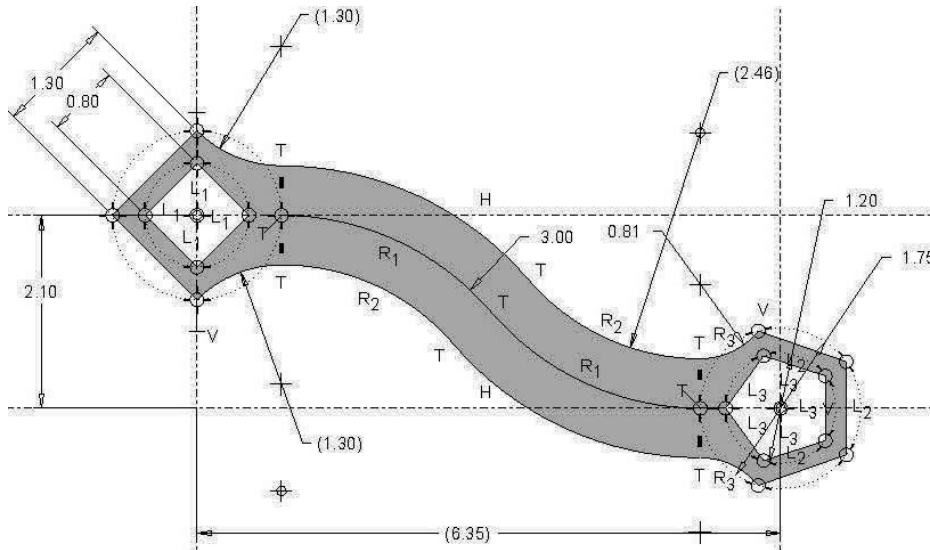

Figure 3-80 Problem 11
**3.11 Challenge problem** - Draw the "Special\_S-wrench" (Figure 3-80). **Design Intent** — All arcs are tangent to each other and the edges of the two end shapes. The diamond shape is 1.30 inches per side. The outer pentagon fits inside a circle of 1.75 inches in diameter. The inner pentagon uses a 1.20-inch diameter circle. The 3-inch radius centerline is tangent at both ends and at its midpoint. The tangent points for the outer arcs are directly above and below the tangent point for the centerline arc.